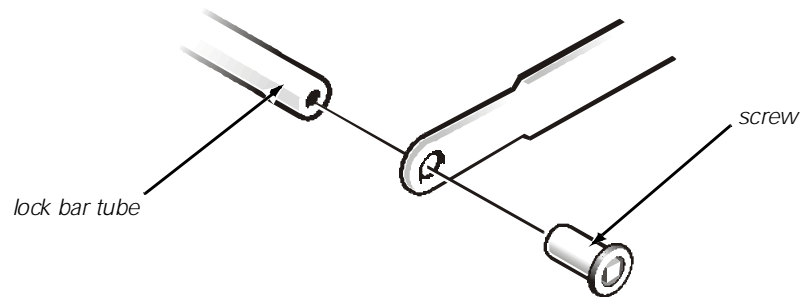

Figure 4. Right Lock Bar Screw
7. While facing the storage system, use a 9/64-inch Allen (hex) wrench to remove the screw on the right side of the lock bar tube (see Figure 4).